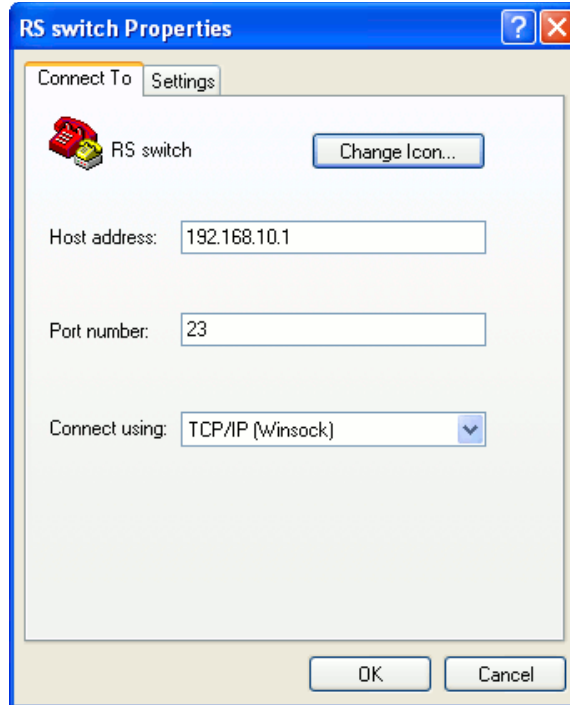

Figure 5 - HyperTerminal Telnet properties.
- Open HyperTerminal and setup a new connection as depicted in Figure 5. The default communication port for the Telnet protocol is “23”.